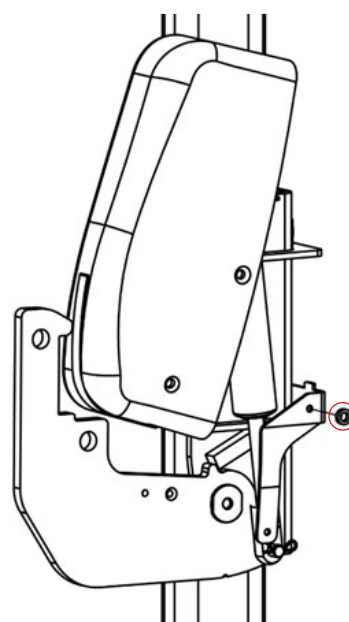

Fig 12.11c
- Refit the hidden spacer that was removed from the position shown in Fig 12.11c